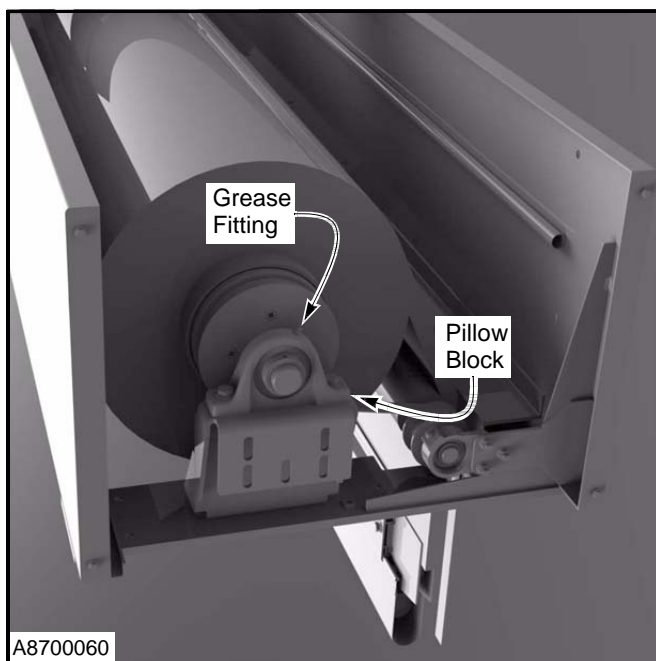

Figure 31
- Pillow Block Bearings:** The drum roll/door panel is supported by two pillow block bearings, which are located at both ends of the assembly. The pillow block has a grease fitting. (See Figure 31)